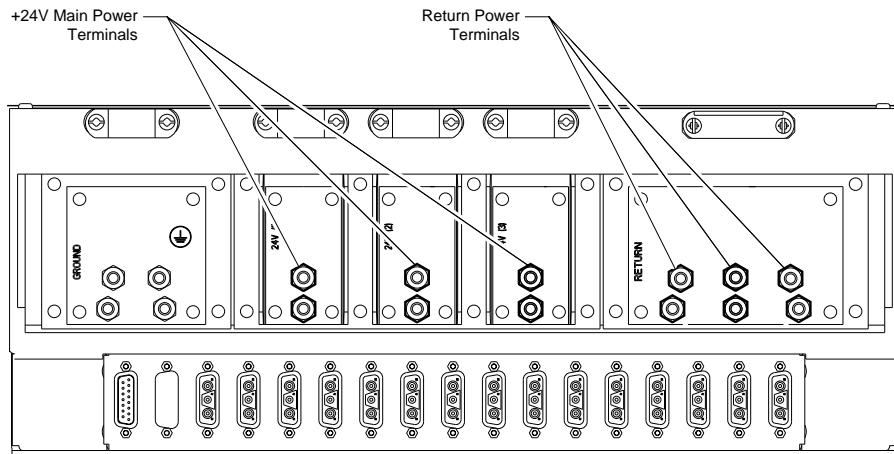

Figure 4.7 Main and Return Power Terminals
- 8 Connect the compression lugs on the return power cables to the three return terminals shown in Figure 4.7. Use 1/4-inch hex nuts with 1/4-inch split-lock washers when securing the cables. Torque each hex nut to 78 inch-pounds.
- 9 Connect the compression lugs on the main power cables to the three +24V DC power terminals shown in Figure 4.7. Use 1/4-inch hex nuts with 1/4-inch split-lock washers when securing the cables. Torque each hex nut to 78 inch-pounds.